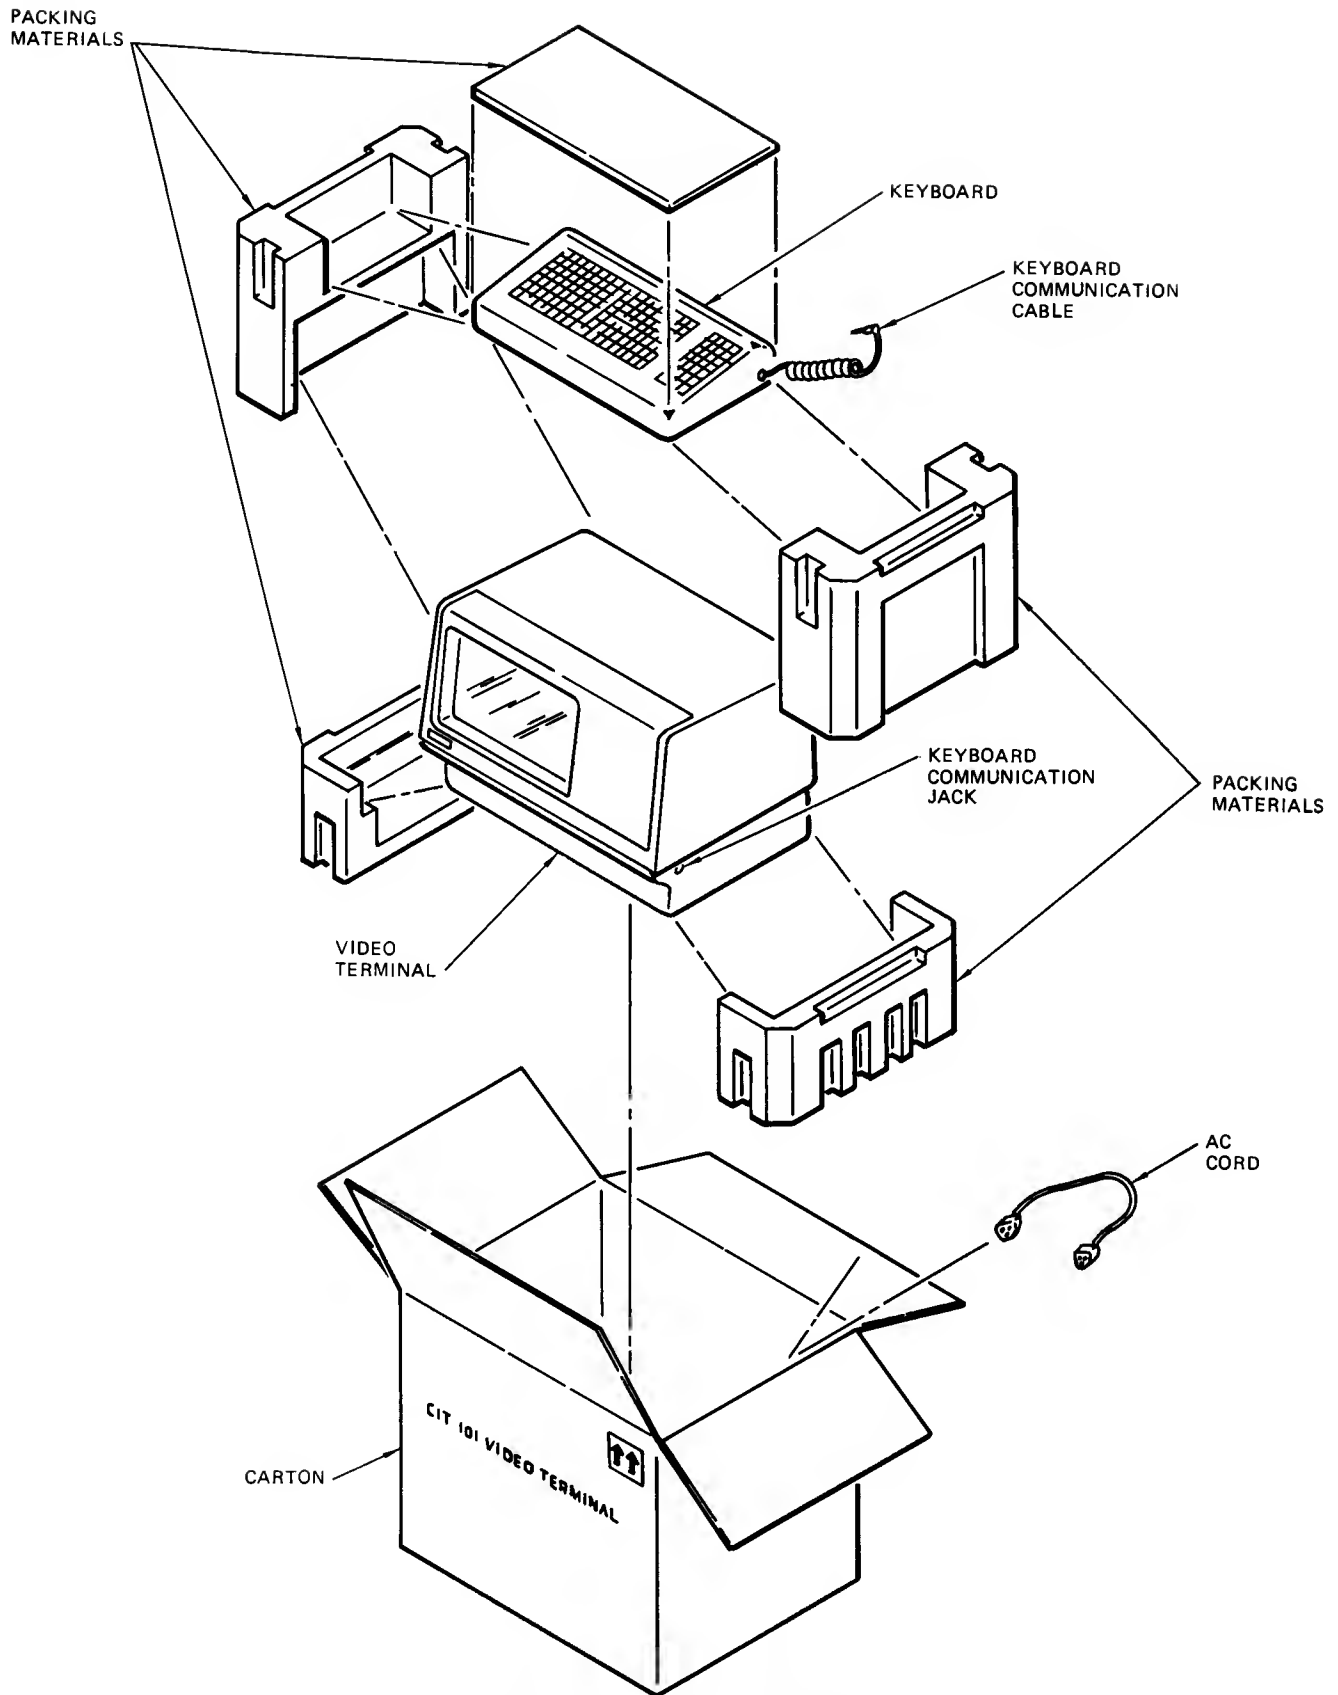

Figure 2-1. CIT-101 Unpacking
The CIT-101 is shipped complete in one shipping container. Refer to the following steps and figure 2-1 to unpack the CIT-101.
2. Open top of carton and carefully remove contents as shown in figure 2-1.
2.6.2.1 Keyboard Cable Attachment. Plug keyboard cable connector into jack located at lower right corner of the video terminal, refer to figure 2-1.